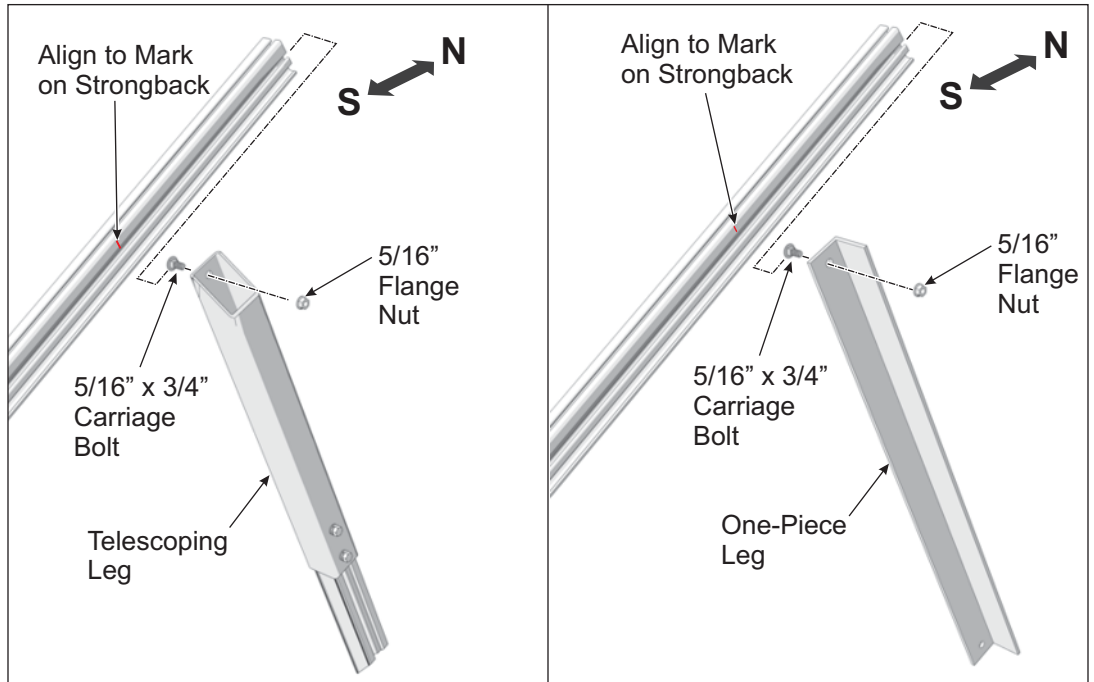

Figure 3-1: Attaching Leg to Strongback
These instructions cover two types of Legs, the One-Piece and the Telescoping. Both types are secured to the Strongback using 5/16" x 3/4" carriage bolts and flange nuts. Figure 3-1 shows the Telescoping and One-Piece legs.
- B. Align mounting hole of Leg to carriage bolt and secure with 5/16" flange nut. For now, finger tighten only. (See Figure 3-1)